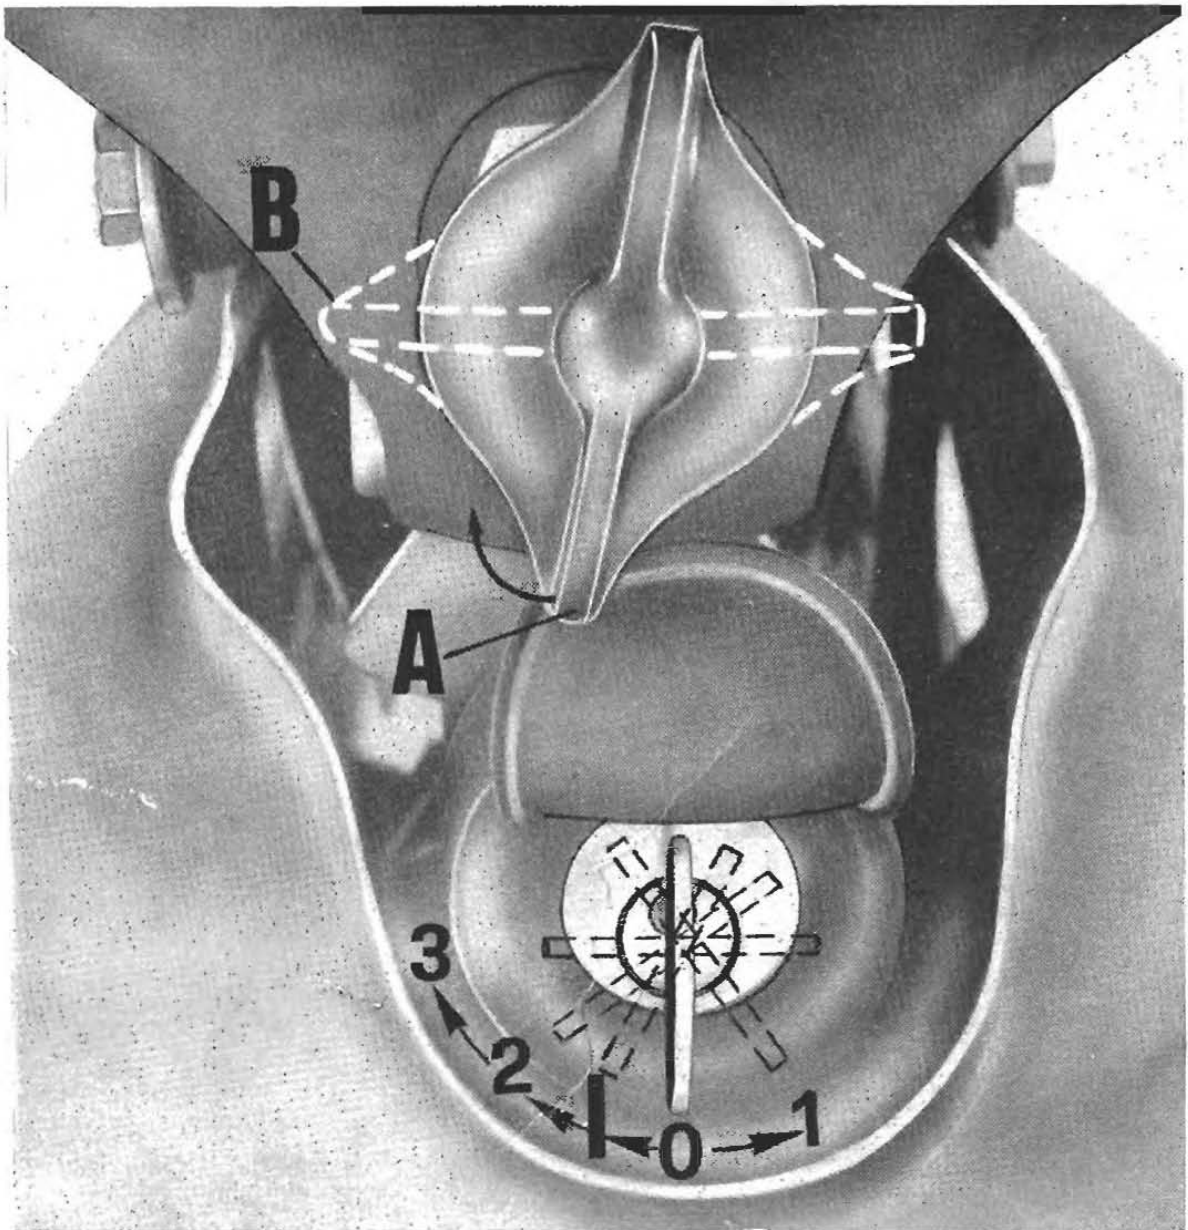

Fig. 7
Ignition key (Fig. 7)
(Fig. 7)
- the ignition key is on position «2» (Fig. 7);
When starting a hot engine there is no need to open the starter lever as this would richen the mixture and make starting difficult. If starting a hot engine gives some difficulty, it is well to open the throttle completely before pushing the starter button or turning the ignition key on the starting position (3 in fig. 7).
As soon as the machine stops, close the throttle, shift to neutral, turn the key on position « 1 » and remove it (fig. 7).